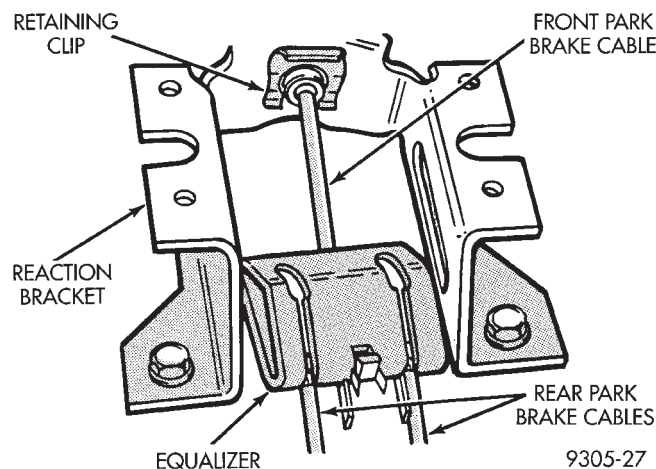

Fig. 23 Correctly Installed Retaining Clip And Assembled Cable
(6) Route front park brake cable along floor of vehicle. Install end of front park brake cable into mounting hole in reaction bracket. Install front park brake cable to reaction bracket retaining clip. Tap retaining clip with hammer until fully installed on cable. Install front park brake cable into equalizer (Fig. 23).